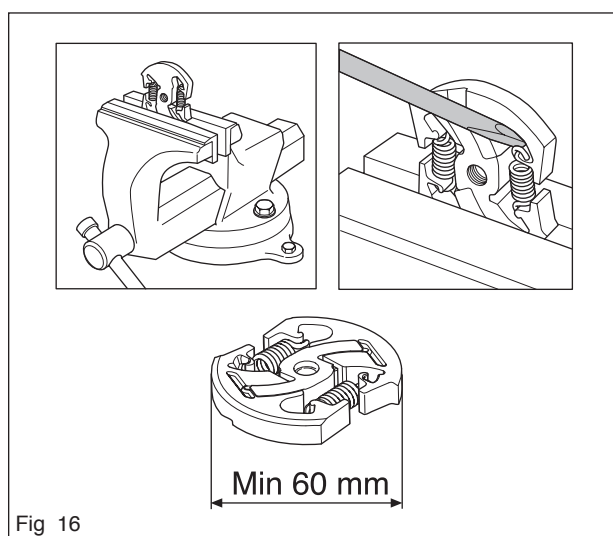

Fig 16
Secure the clutch in a vice as shown in figure. Carefully release the clutch springs (C) (see figure 16).
- Check the thickness of the clutch shoes by using vernier callipers to measure the diameter of the clutch. If the diameter is less than 60 mm the clutch assembly must be replaced (see figure 16).